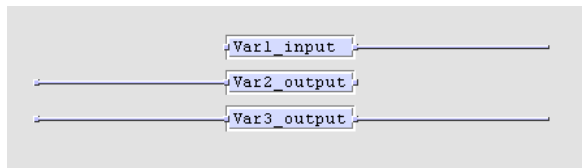

Figure 219: Direction of global variables
- The direction of the variable is determined based on the graphical representation, shown in Figure 219.